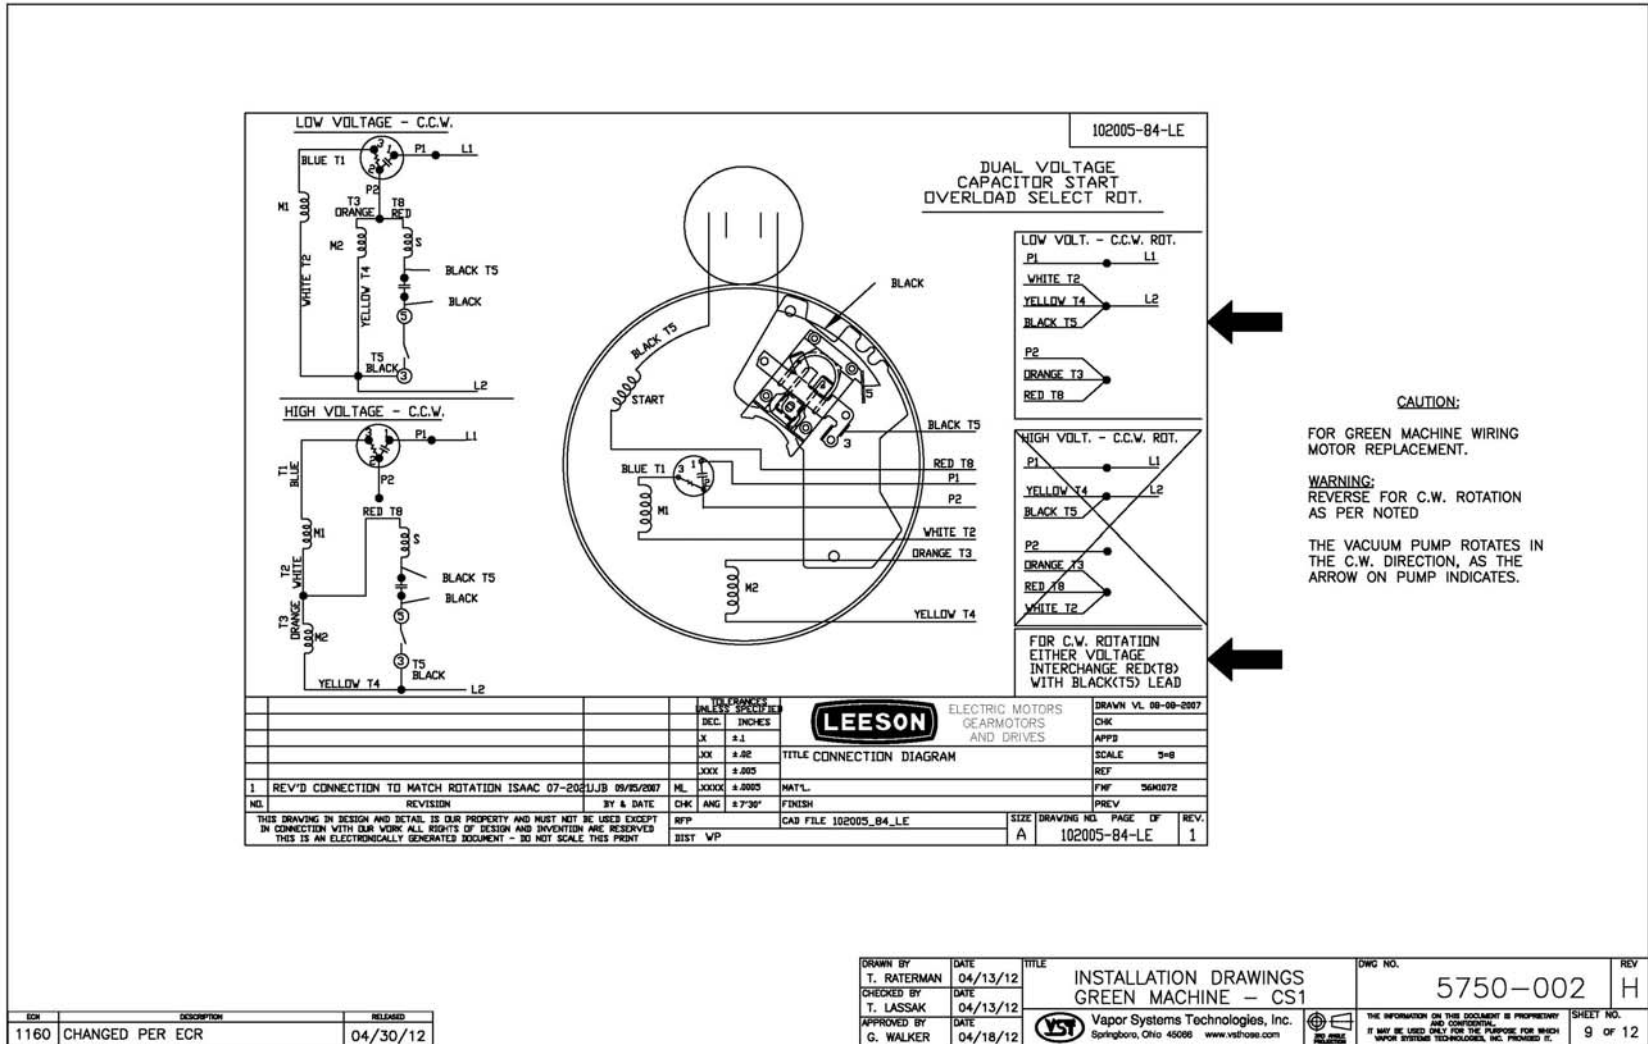

Figure 28: Vacuum Pump Motor Wiring Diagram
- **See Figures 28**
5. Reconnect the Vacuum Pump Motor electrical power wires inside the Internal Junction Box. **See Figure 28.**
See Figure 28: Green Machine Vacuum Pump Motor Wiring Diagram